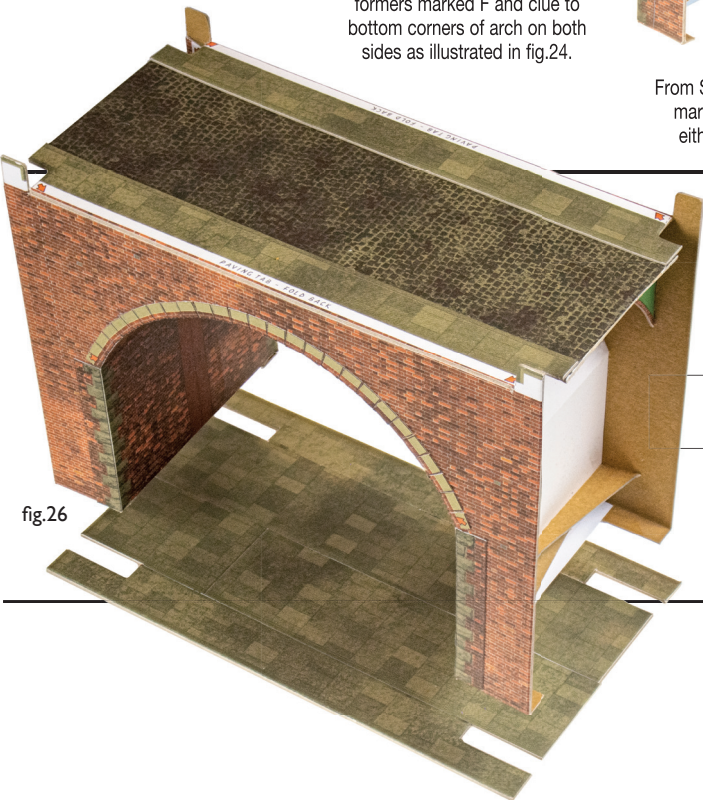

fig.26
- 4 For a paved area beneath the arches take the four-part PAVING EXTENSION from SHEET 1 and from SHEET 2 take the PAVING piece and divide both into two halves. Glue into place around bottom tabs (fig.26).